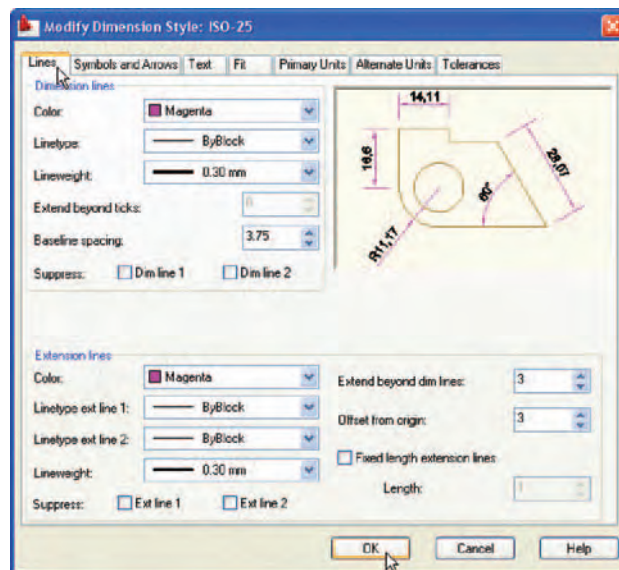

Fig. 4.11 The setting for Lines in the Modify Dimensions Style dialog
3. The **Modify Dimension Style** dialog appears (Fig. 4.11). This dialog shows a number of tabs at the top of the dialog. *Click* the **Lines** tab and make settings as shown in Fig. 4.11. Then *click* the **OK** button of that dialog.